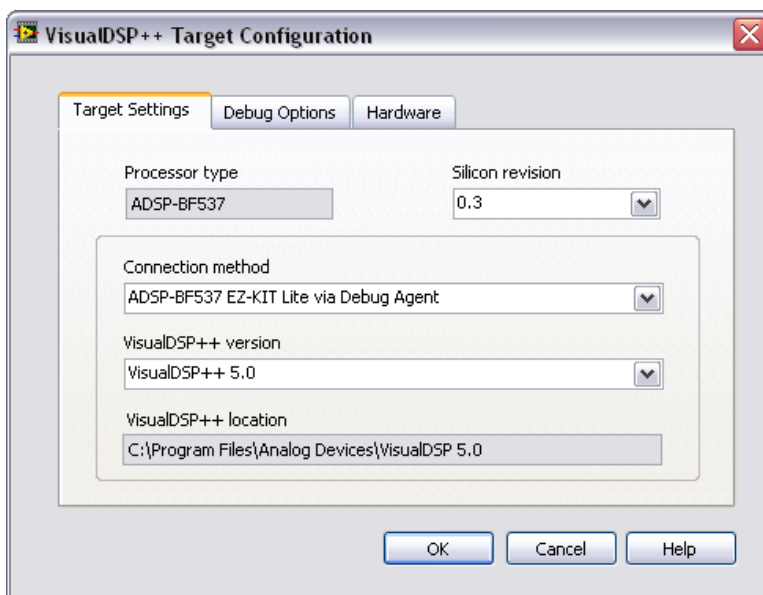

Figure 4. Configuring the Target Settings
1. Right-click **Analog Devices ADSP-BF537** in the **Project Explorer** window and select **Configure Target** from the shortcut menu to display the **VisualDSP++ Target Configuration** dialog box, shown in Figure 4.